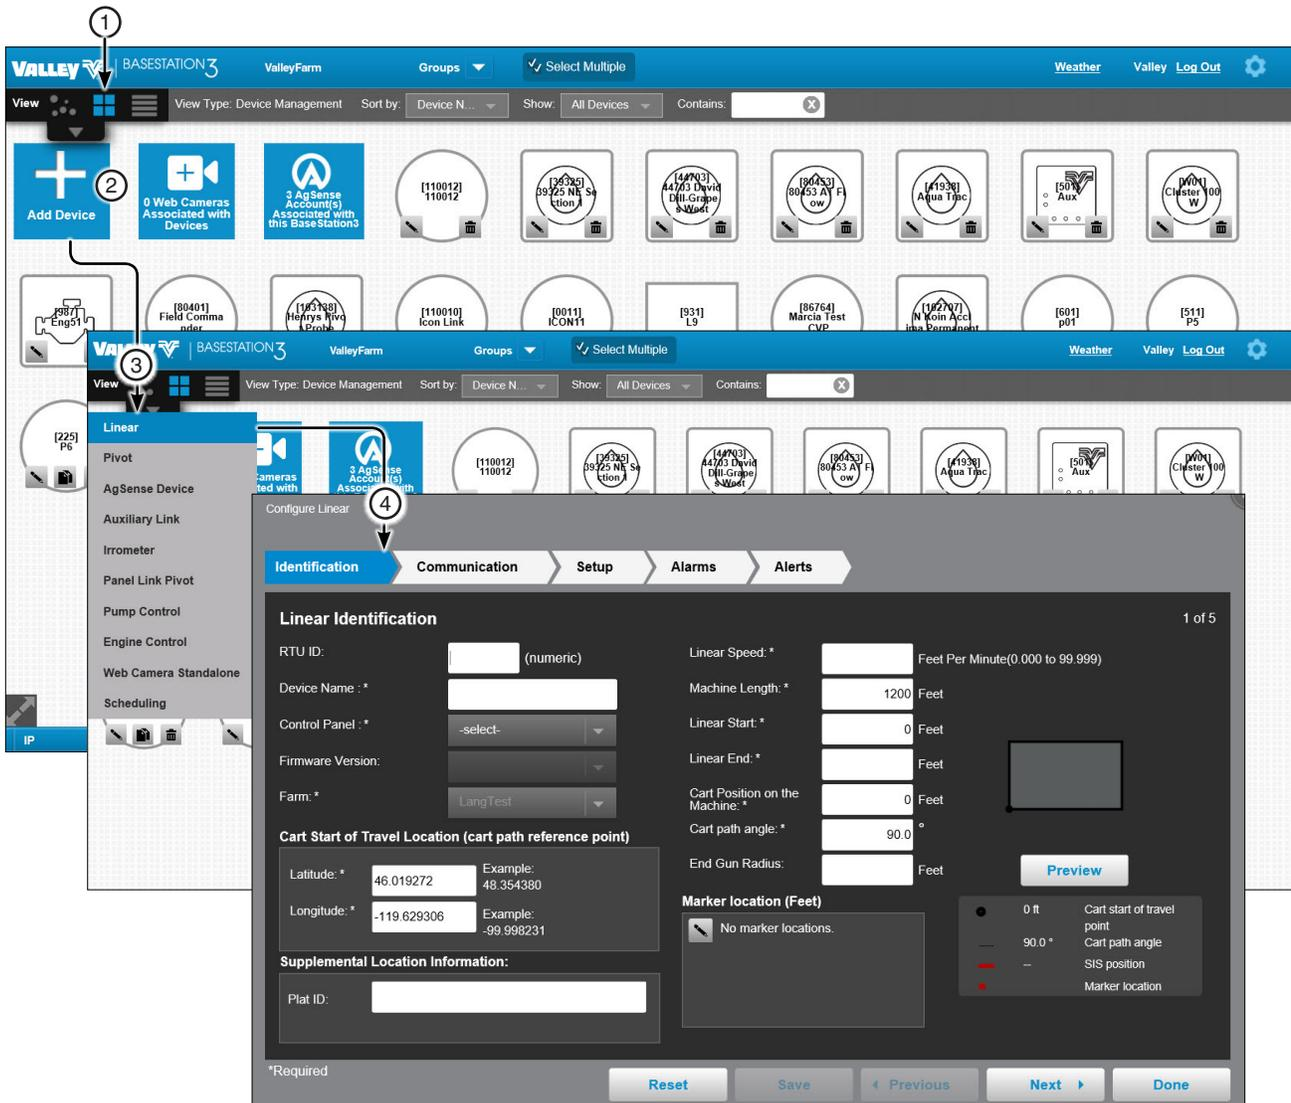

Figure 140-1 1. Tile View Device Management 2. + Add Device 3. Device List 4. Device Configuration
**Tile View:** To add a device while in Device Management - Tile View, refer to Figure 140-1 and do the following.